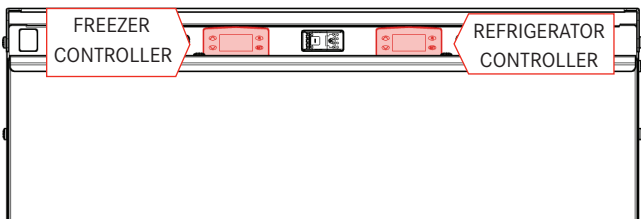

Fig. 8
1. Locate the appropriate temperature controller on the front of the unit (Fig. 8).